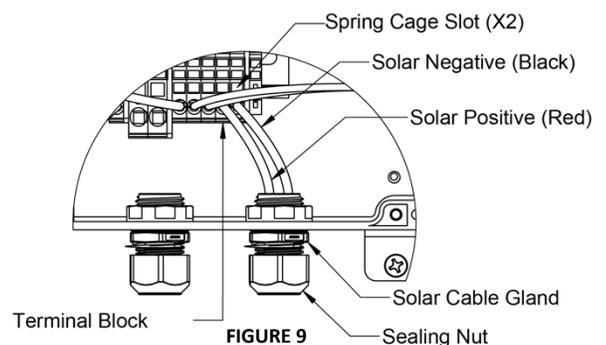

FIGURE 9
13. Repeat steps 7-12 for the liftgate battery harness, but with wires inserted through middle cable gland, positive wire (red) inserted into right terminal block and negative wire (black) inserted into left terminal block (Figure 9), and cable gland and sealing nut restrained and tightened with 1-1/16" wrenches.